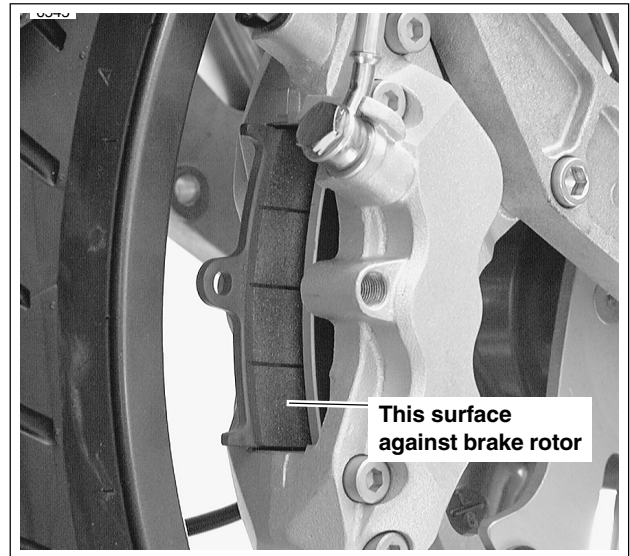

Figure 2-32. Installing Brake Pads
- a. See Figure 2-32. Insert brake pads from behind.